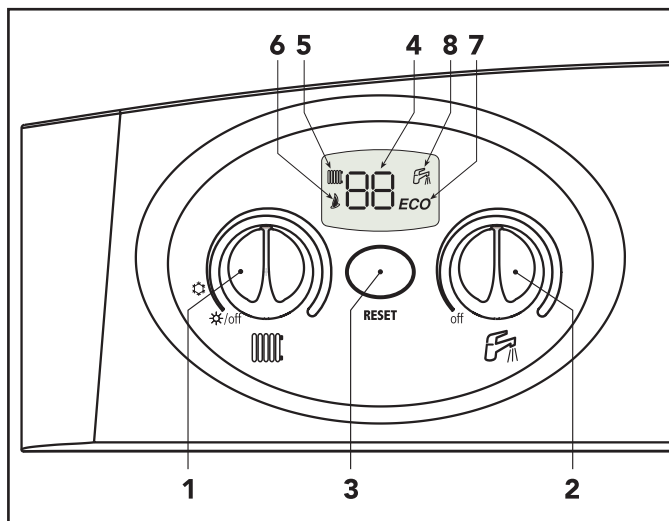

Fig. 1
During normal operation, the boiler diagnostics display the running information or boiler status on the control panel (Fig.1).see below.
Turn the knobs (ref. 1 and 2 Fig. 1) onto minimum.
To set the system delivery temperature, turn the knob (ref. 1 - Fig. 1).
To set the tap water temperature, turn the knob (ref. 2 - Fig. 1).
Boiler shutdown	Make sure that the gas cocks ahead of the boiler and on the meter are open. Press the multi-function button (for 1 second) (fig.1) In case of repeated shutdowns, contact the nearest assistance centre.